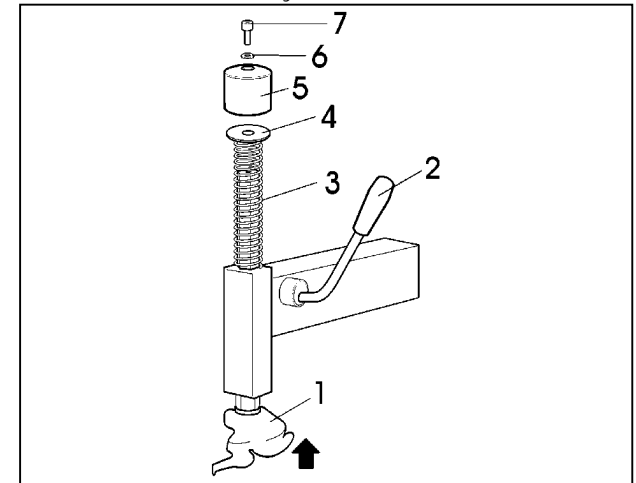

Fig. 5
L. Release the lever #2 and mount the hexagonal arm from the bottom (#1 Fig.5).
L. Débloquer le levier #2 et monter la barre hexagonale du bas (#1 Fig.5).